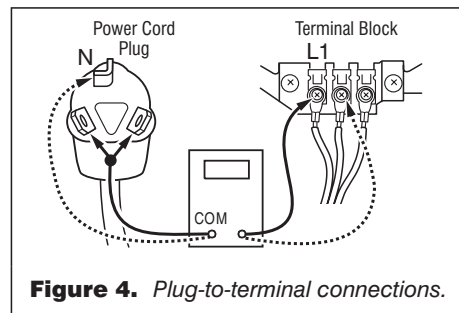

Figure 4. Plug-to-terminal connections.
4. With an ohmmeter, check for continuity between the neutral (N) terminal of the plug and the center contact on the terminal block. See figure 4.
5. In a similar way, check which terminal of the plug is connected to the left-most contact on the terminal block and make a note of it. This will be L1 (black wire) in the wiring diagram. See figure 4 and the appropriate wiring diagram, page 4.